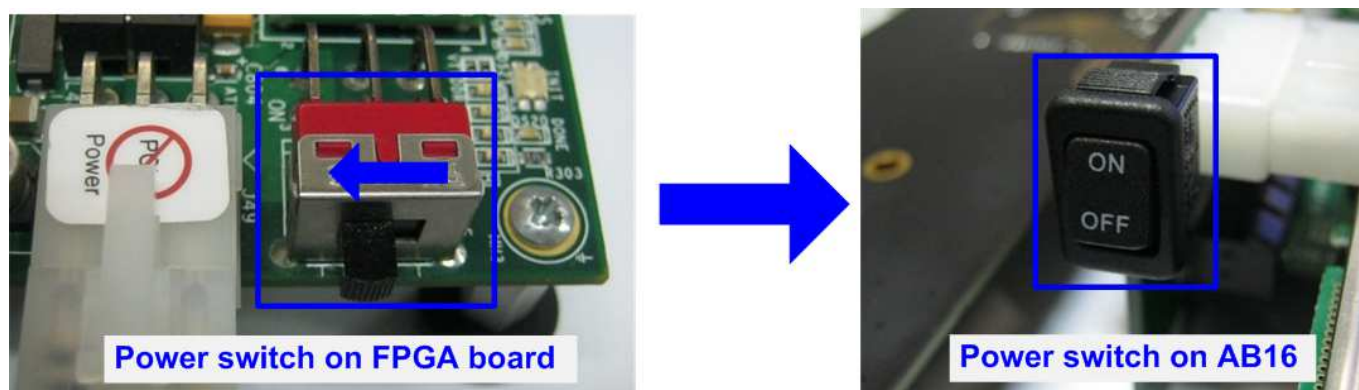

Figure 2-5 Power switch on AB16 board
- 6) Power on AB16-PCIeXOVR board and then power on FPGA development board, as shown in Figure 2-5.